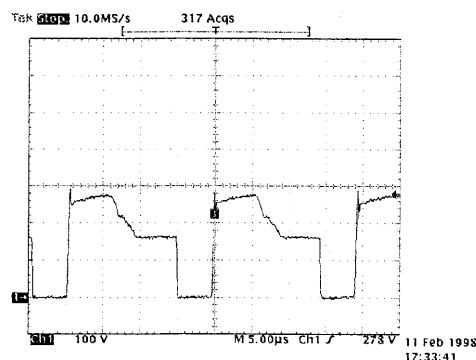

FIG. 12 REF. 1
- on the electronic board (ref. 1) short-circuit points U, T and a rheophore of the primary circuit of the transformer (fig. 12) switch on
4. Set the regulation knob to the centre of the dial, switch on the generator, turn the knob to the maximum welding current and read with the amperometer the maximum current indicated on the technical table with +/- 5% tolerance. You will see on the oscilloscope a waveform as in fig. 12.